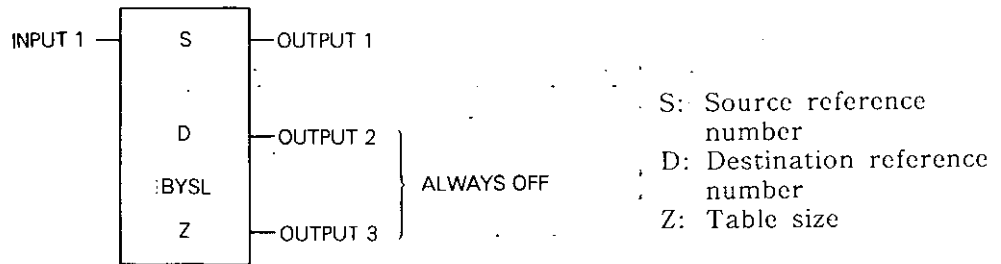

Fig. 5.76 BYSL General Form
- Fig. 5.76 shows the form of byte split.